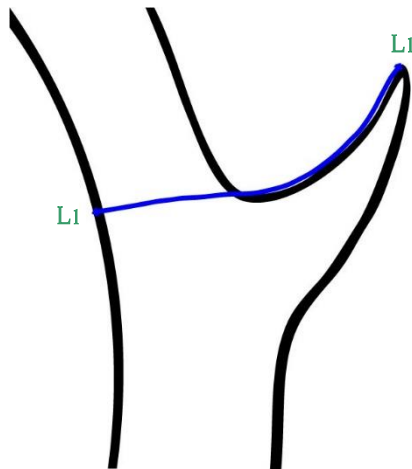
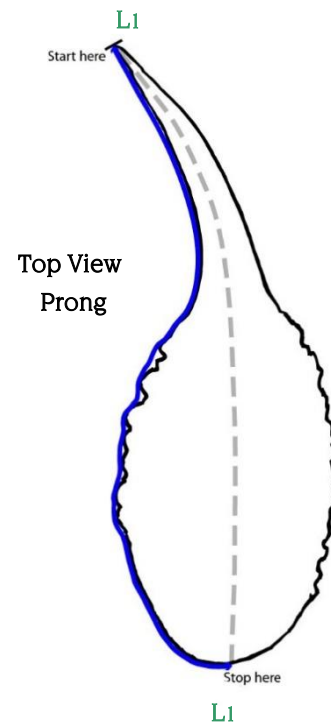

Figure 4
Figure 5
3. Prong Length. Measure the prong by starting at the very point of the prong, following the upper edge of the prong until you reach the horn itself, and then go in a straight line to the center point of the back end of the horn. (Figures 4 and 5) See the detailed drawing of the top view of where to stop the tape at the back end of the horn. (Figure 5)